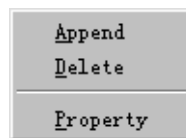
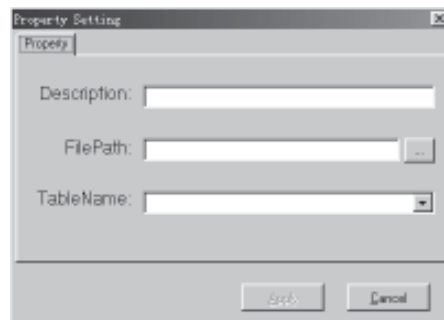
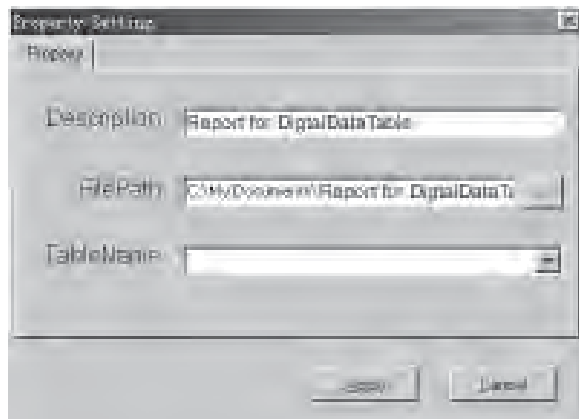

Fig. 8-22 Click the Right Key of the Mouse
Fig. 8-23 Select the ;°Append;±Function Option
Fig. 8-26 Properties Modifying Dialogue Block
2.1 Add the Designed Report to the Table List. Click the right key of the mouse in the listing table, and the dialogue block as in Fig. 8-22 will be shown. Select the function option ;°Append;±and the dialogue block as in Fig. 8-23 will be shown.
2.2 Delete the listing option from the listing table. First select the listing option to be deleted and then click the right key of the mouse. Then the dialogue block as in Fig. 8-22 will be shown. Select the ;°Delete;±function option.
2.3 Modify the properties of the listing option. First select the listing option to be modified and then click the right key of the mouse. Then the dialogue block as in Fig. 8-23 will be shown. Select the ;°Property;±function option, then the dialogue block as in Fig. 8-26 will be shown. In the dialogue block, modifying the ;°Description;± and ;°FilePath;±, and then click the button ;°Apply;±. Thus the modification is completed.